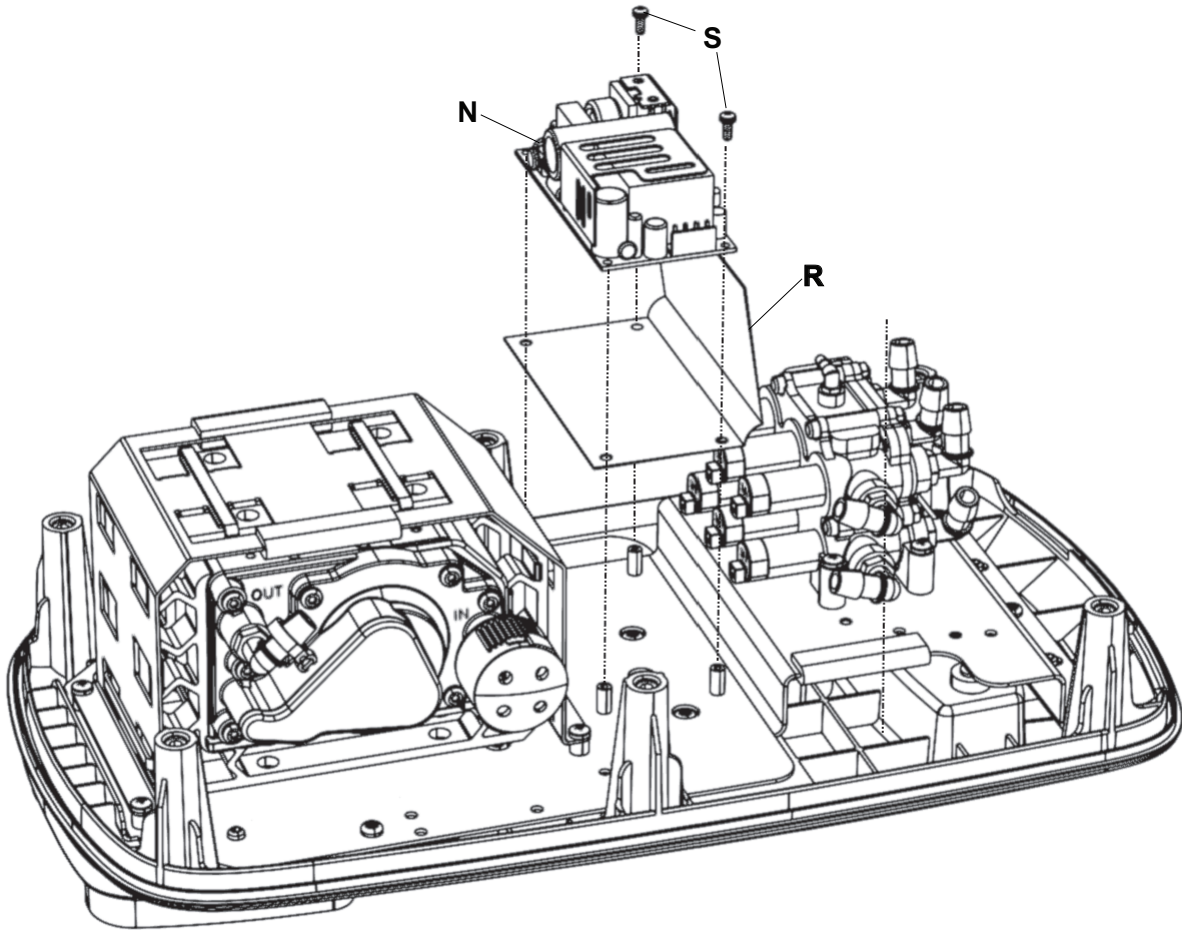

Figure 26 – Power supply to main
3. Using a #2 Phillips screwdriver, remove the four screws (S) that secure the power supply (N) to the main support plate (R) (Figure 26). Save the screws.
4. Remove and discard the power supply (N) (Figure 26).